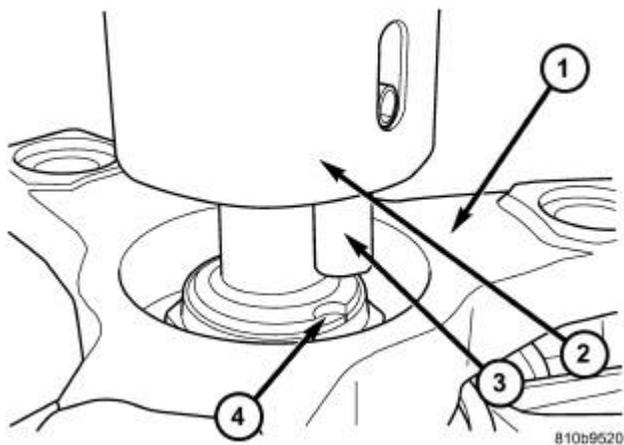

Fig. 188: Align Staking Tool
6. Rotate the Staking Tool (special tool #9078, Staking Tool) (2) until the alignment pin (3) engages the
output shaft notch (4). Refer to **Fig. 188**.